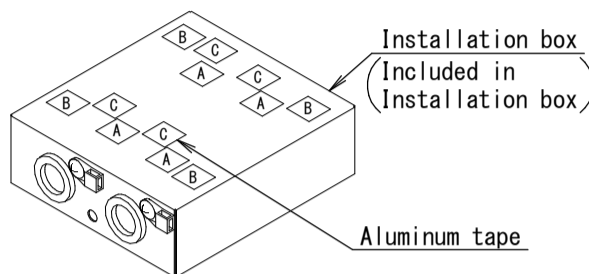

Figure 1
(2) Remove the Aluminum tapes "C" on the Installation box (attached to the Installation box). (Figure 1)